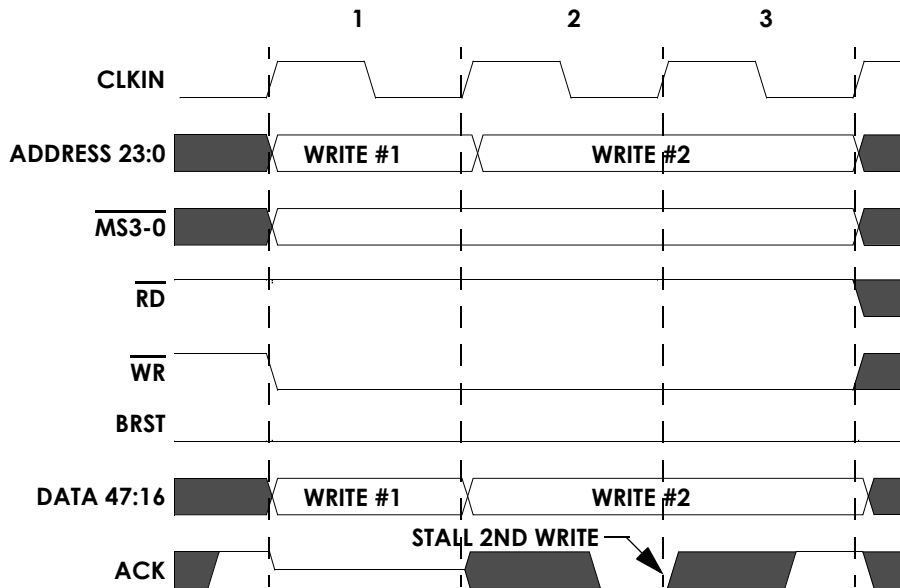

Figure 7-10. Typical Synchronous Write Example
Figure 7-10 on page 7-26 shows typical synchronous write cycle timing. Propagation delays are not shown in this timing diagram. Synchronous access requires a rising clock edge for the slave to sample the asserted signals of the master (and for the master to sample the signals of the slave). In the case of writes, the latency can be reduced to a single cycle if the slave
always latches the bus signals on each clock cycle (it does not sample `ACK`). For example, the slave can not sample the bus, decode that it is being addressed as a slave, and sample the write data of the bus in the following cycle. The slave samples the bus each cycle and decodes the sampled value to determine if that slave was addressed by the write operation. If the slave's write queue goes full with that write, the slave deasserts `ACK` in the cycle after the write operation transferred on the bus. Any subsequent bus operation (read or write) stalls until `ACK` is sampled asserted, as shown in cycle 2 of Figure 7-10.
Bus master synchronous writes to external memory occur with the following sequence of events as shown in Figure 7-10 on page 7-26:
1. (cycle 1 in Figure 7-10) If  $\overline{ACK}$  is sampled asserted at the start of cycle 1, the DSP bus master drives the write address and asserts a memory select signal ( $\overline{MS3-0}$ ) to indicate the selected bank. The DSP asserts the  $\overline{WR}$  strobe. The write strobe is not deasserted between successive write accesses of the same memory bank.